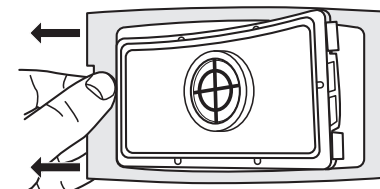

Fig. 7b
2. Carefully fit the filter surround gasket around the filter (Fig. 7b).